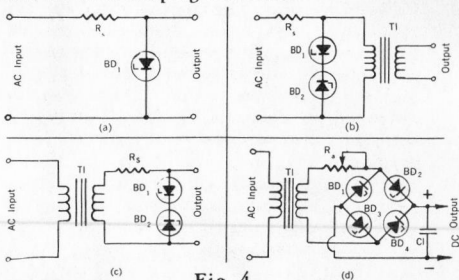
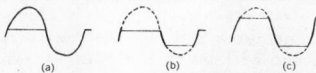

Fig. 4
Fig. 5
**AC APPLICATIONS:** Zener diodes may be used effectively in AC circuits. Typical applications are illustrated in Fig. 4, with the basic AC shunt regulator shown in Fig. 4(a). As will be observed, the basic circuit is almost identical to that of the basic DC shunt regulator. The difference between the two lies in the mode of operation, for when AC is applied to a single Zener diode, the device conducts on alternate half-cycles...that is, when biased in its forward direction. The result is that alternate "halves" of the applied signal are stripped away, as shown by the waveform sketch given in Fig. 5(a). Zener breakdown action takes place only when the reverse bias peak exceeds the diode's rated voltage; in this case, the output waveform assumes the shape illustrated in Fig. 5(b)...essentially an unsymmetrical square-wave with slightly curved sides. The function of the series resistor,  $R_S$ , is the same as in the DC regulator circuit discussed earlier. Modified versions of the basic circuit...Fig. 4(a)... may be used not only as regulators but as clippers and rectangular-wave generators.
If it is necessary to regulate both peaks of an AC voltage...and this is generally the case...then two Zener diodes are connected "back-to-back," as illustrated in Fig. 4(b). With this configuration, the peaks of the applied voltage are clipped to the Zener voltages and the waveform is essentially as shown in Fig. 5(c). The circuit shown in Fig. 4(b) is used to regulate the primary voltage applied to a power transformer ( $T_1$ ), but a similar back-to-back
arrangement may be used to regulate secondary voltage, as shown in Fig. 4(c). In both cases, the usual series resistor ( $R_s$ ) must be included to insure proper operation.
Another interesting and useful Zener diode application is illustrated in Fig. 4(d). Here, four Zener diodes ( $Z_1$ ,  $Z_2$ ,  $Z_3$  and  $Z_4$ ) are connected in a bridge arrangement as part of an AC-powered regulated DC supply. In operation, the Zener diodes act as clippers in conjunction with  $R_a$ , limiting the voltage to which the output capacitor,  $C_1$ , is charged. At the same time, the Zeners serve as ordinary rectifiers. This type of circuit is especially valuable where only a modest degree of regulation is required.